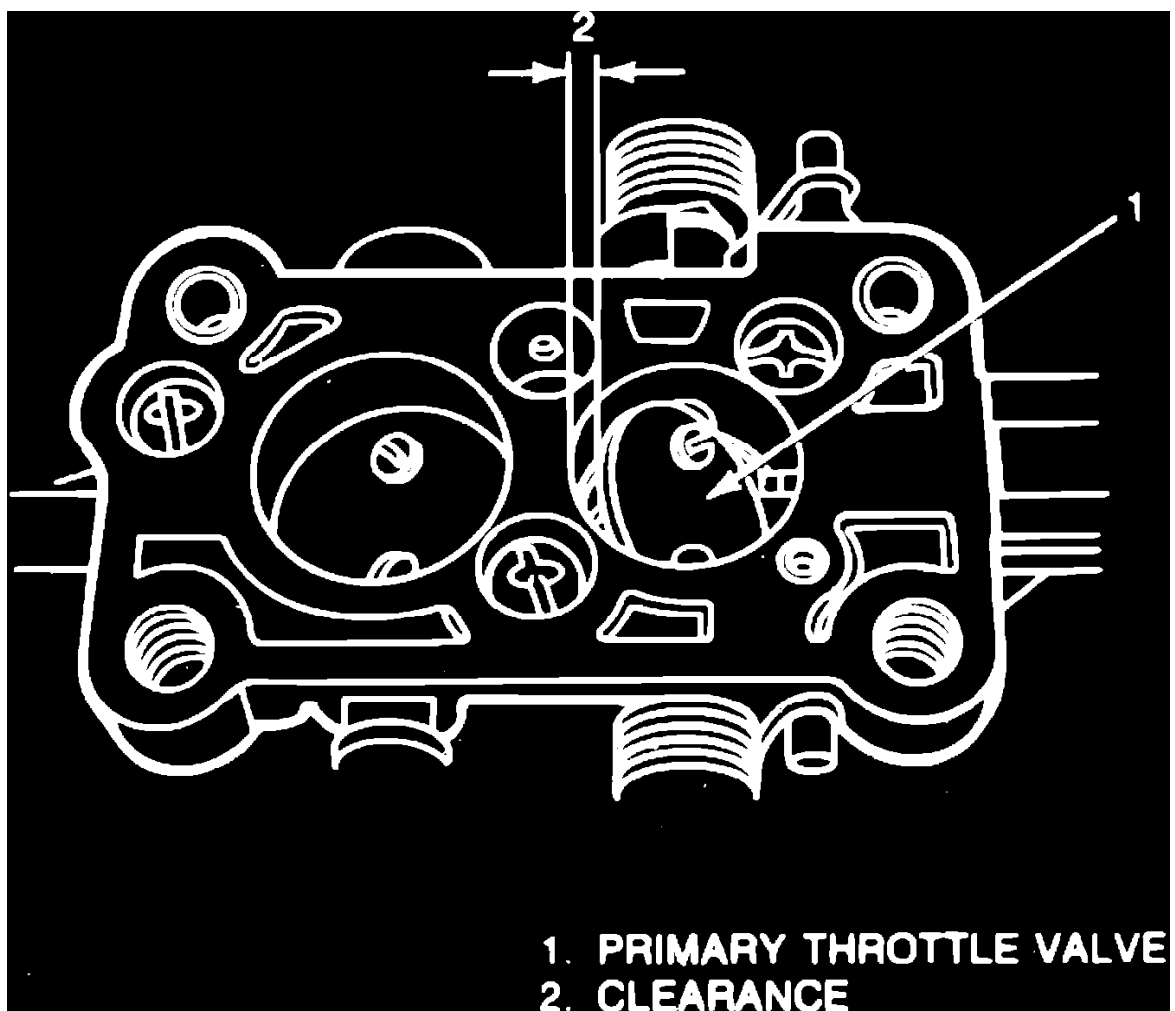
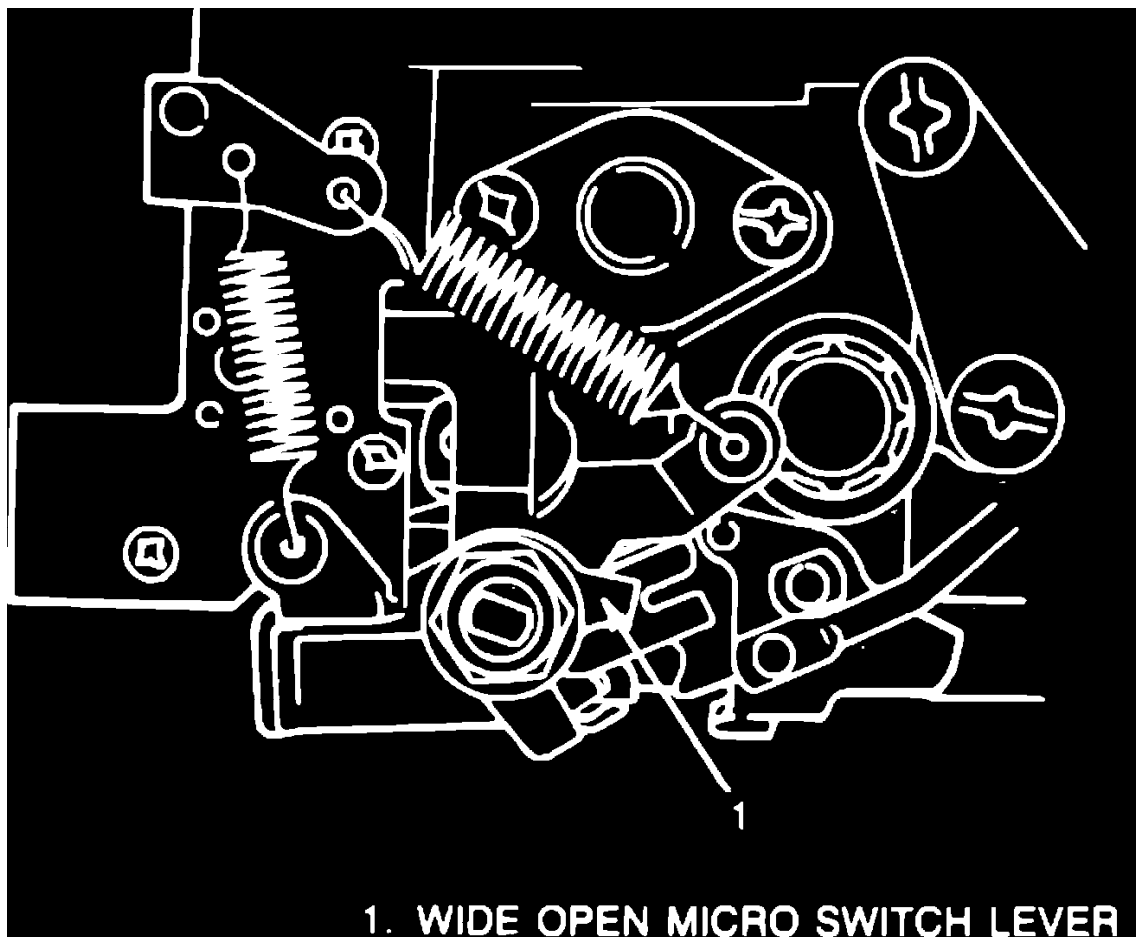

Fig. 13 Throttle plate clearance measurement
Fig. 14 Wide open throttle micro switch adjustment
3. Open throttle gradually until ohmmeter indicates zero ohm. Measure clearance between throttle butterfly and carburetor bore, **Fig. 13**. Clearance should be .29 - .33 inch (7.2 - 8.4 mm). If clearance is out of range, adjust by bending lever, **Fig. 14**.